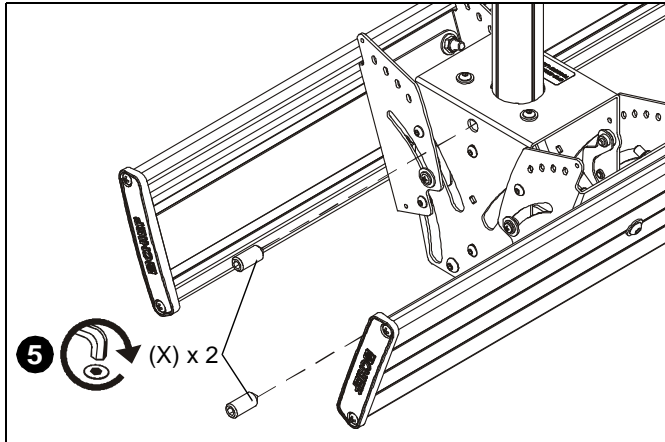

Figure 4
5. Install and tighten two 5/16" x 3/4" set screws (X) through side of mount (DD) and against column. (See Figure 4)